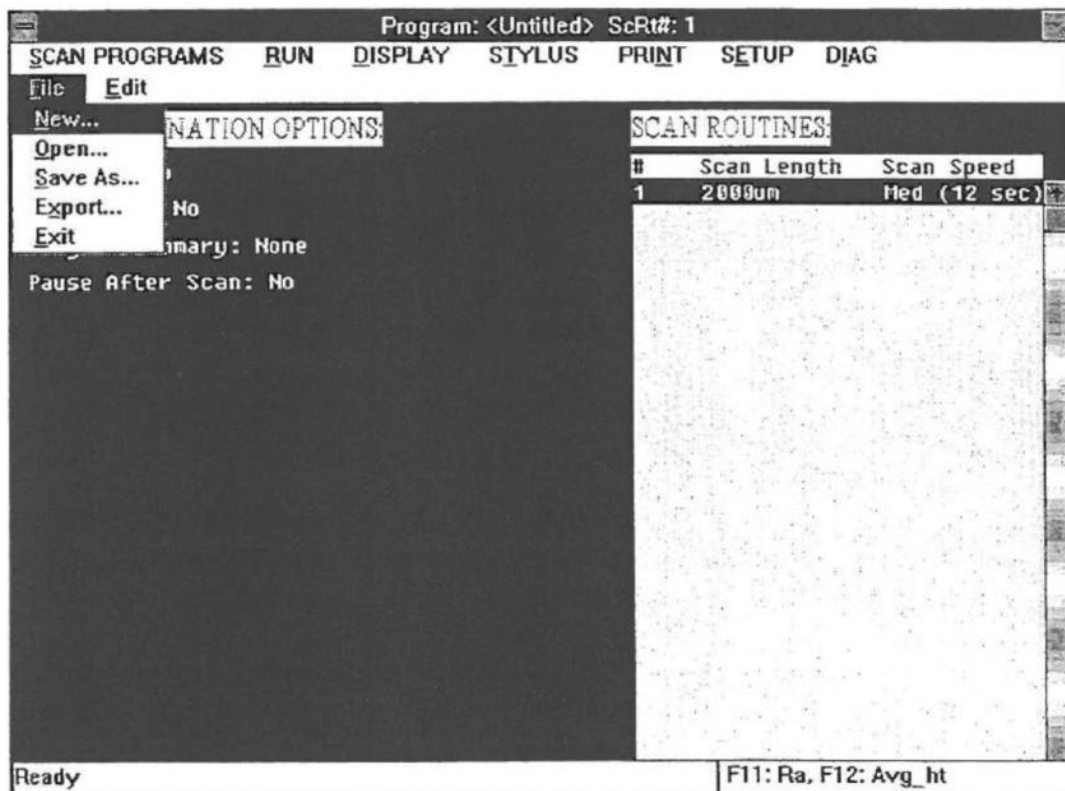

Figure 5 - 1 Creating A New Multi-Scan Program
2. Click on the File menu from the screen specific menu bar. The file menu will be displayed (see Figure 5 - 1).